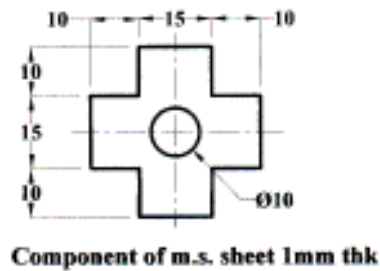

Fig. 2(a)
2. Design a progressive die for the component shown in Figure 2(a).
i) Fig. 2(b) shows strip layout for the component in fig. 2(a). Find out material utilization assuming sheet of size $2500 \times 1250 \times 1$ mm.